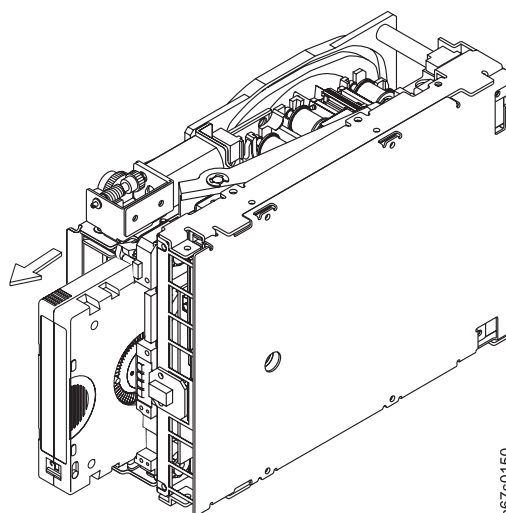

Figure 146. Rotating the loader motor gear until the cartridge ejects
- ___ 13. Rotate the loader motor gear counterclockwise until you feel resistance and the cartridge rises and ejects (see Figure 146 on page 305).